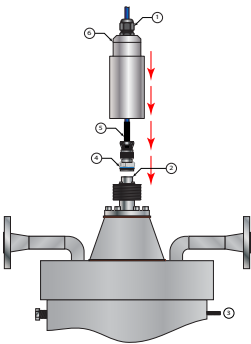

Figure 17: Protective cable cover installation
- 2. Slide the protective cable cover over the sensor connections and thread the cover hand tight. See *Figure 17*.